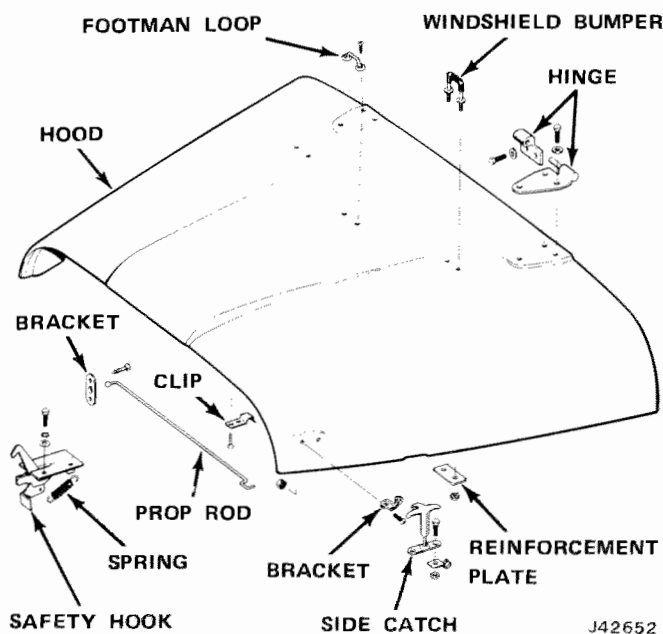

Fig. 14-14 Hood and Related Parts - CJ Models
(1) Mark the position of hinges on their respective mounting panels before removing hood.
(2) Detach hood panel from hinges by removing the attaching bolts, lockwashers and flat washers.
(3) Disassembly of the CJ hood is accomplished by removing the hood prop rod, hood prop rod retainer clip, hood side catch brackets, footman loop, and windshield bumpers (fig. 14-14).
(4) Disassembly of the Cherokee, Wagoneer, and Truck hood is accomplished by removing the hood lever lock assembly, left and right hood panel brace rods, and the insulation pad (Cherokee and Wagoneer) that is cemented to the hood panel (14-15).